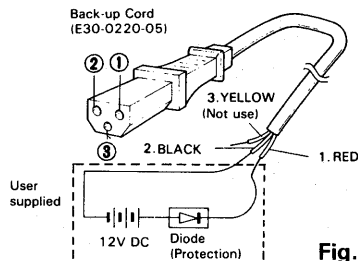

Fig. 3-4
- (1) A power cord should be connected directly to the battery terminal.
- (2) A back-up supply (W09-0005-05) should be used. In either case, back-up current of about 2 mA is required.
6. If you wish to retain the memories even when changing the installation between the car and the fixed station, utilize a back-up cord as shown in Fig. 3-4.